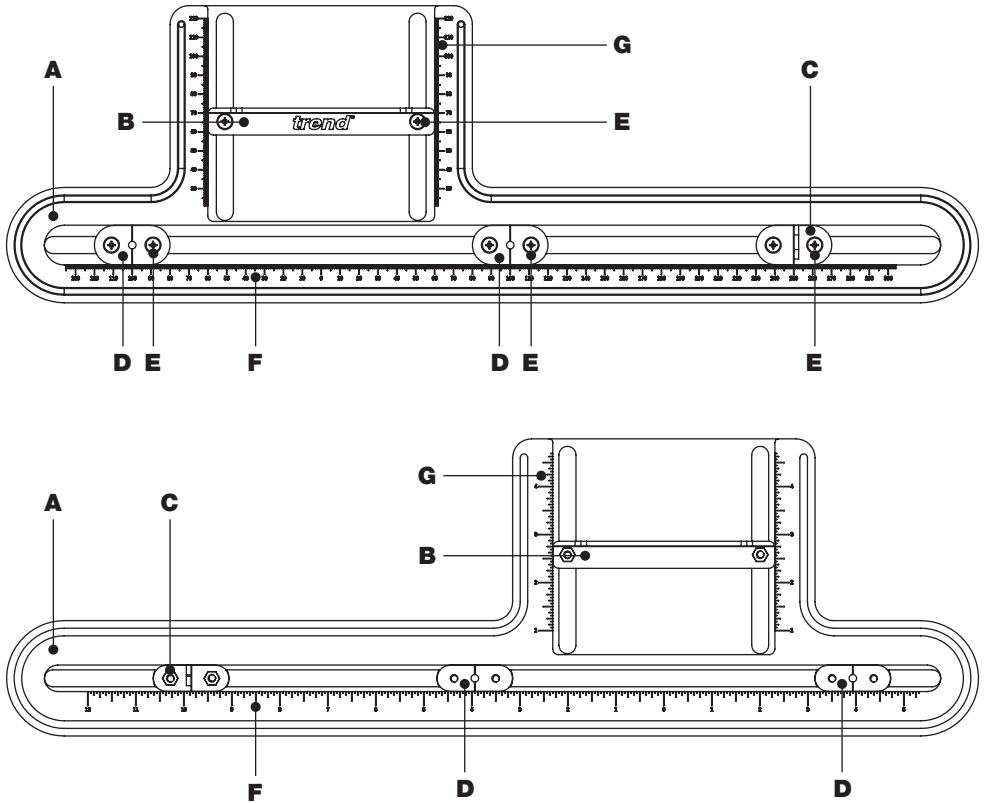

Fig. 2
- The Short Guide, Long Guide and Drill Guides all have inbuilt scribe lines to ensure accurate positioning to the Measurement Scales (Fig. 2).